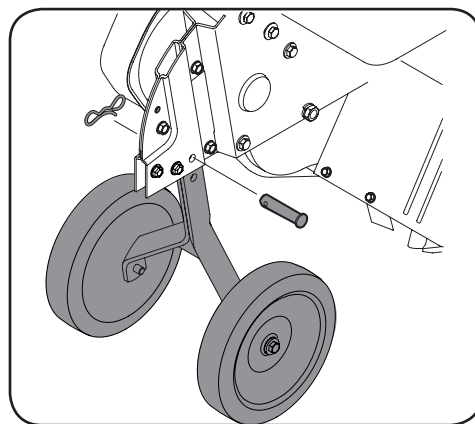

Figure 3-3
- Remove the remaining clevis pin and cotter pin from the manual bag, install the wheel assembly into the chain case bracket as shown in Figure 3-3.